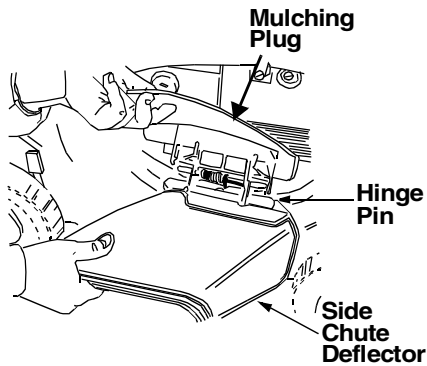

Figure 14
- Your mower has been shipped as a mulcher. To convert it to a side-discharge mower, lift the mulching plug. Slide the two hooks on the side-discharge deflector under the hinge pin on the mulching plug assembly. Lower the mulching plug. See Figure 14 .